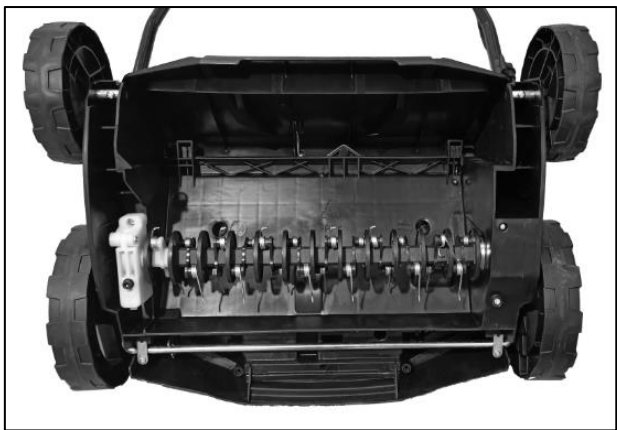

Fig.16
- e) Close the bearing cover and secure it by re-tightening the hex bolts (Fig.16). After it is firmly fixed in place, gently upright the Aerator/Scarifier before turning the appliance on for use.